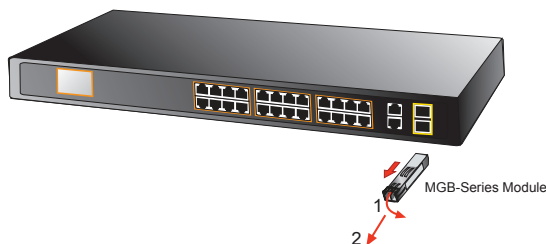

Figure 3-5: How to Pull Out the SFP Transceiver
4. Pull out the module gently through the lever, as the Figure 3-5 shows.